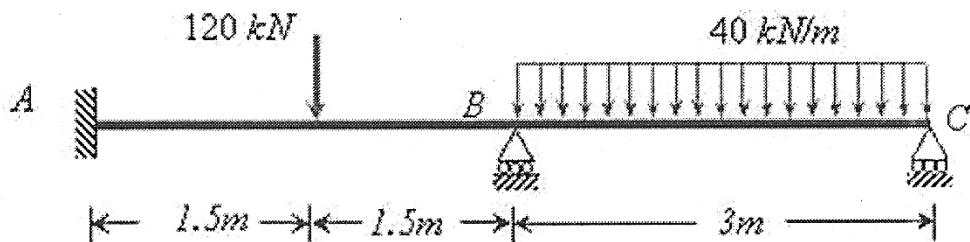

Figure 1
1. Analysis the continuous beam shown in figure 1 by stiffness matrix method. Draw bending moment diagram. (EI constant). **16**
3. Analysis the continuous beam shown in figure 1 by stiffness matrix method, if the support B sink by 15 mm (EI constant) take $EI = 10000 \text{ kNm}^2$ **16**